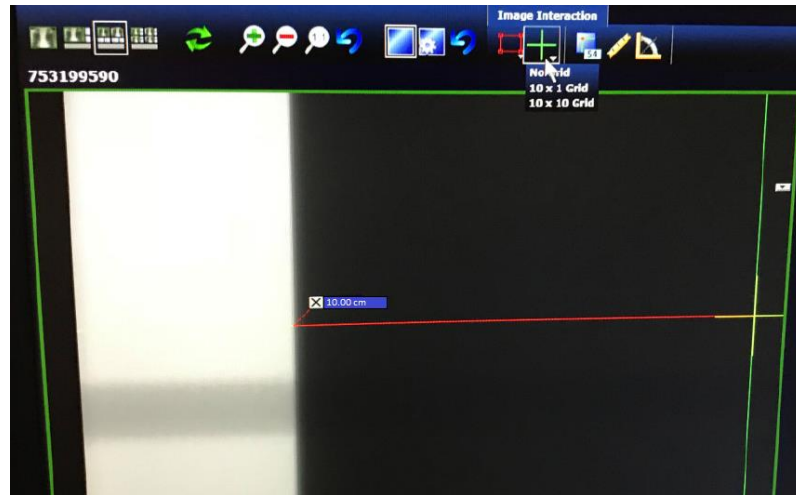

Figure 8-15: Using the Halcyon system tools to set the water column height exactly 10 cm above isocenter.
- Once an MV image is taken, the Halcyon measuring tool can be utilized to measure the distance between the water surface and isocenter (yellow cross, in Figure 8-15 below), which should be 10.0 cm.